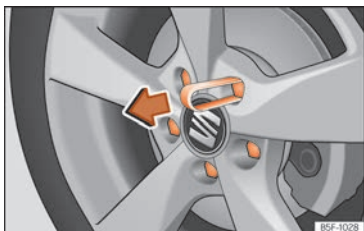

Fig. 75 Wheel: wheel bolts with caps.
- Fit the plastic clip (vehicle tools) over the cap until it clicks into place »» Fig. 75.